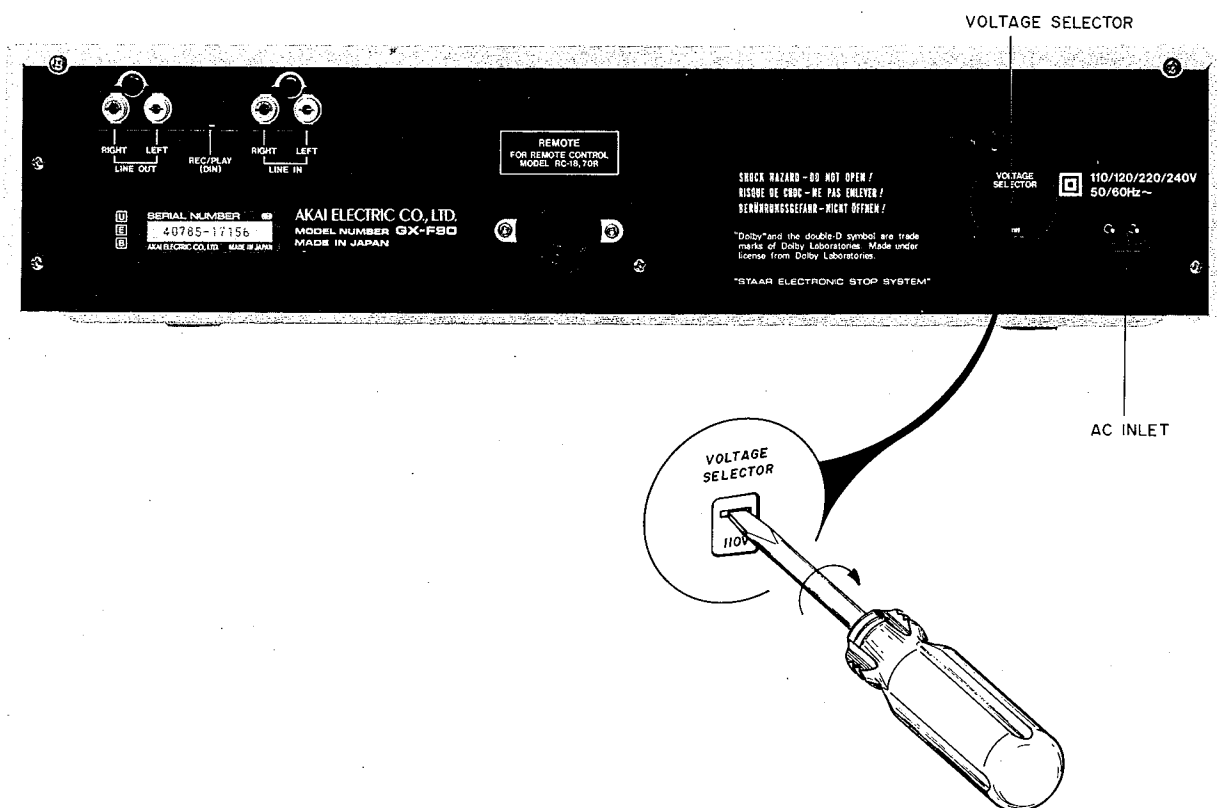

Fig. 4 Rear View (U/T, CEE, UK Models)
2) U/T, CEE, UK Model (Refer to Fig. 4)
Turn the Voltage Selector on the rear panel to the right with a minus screwdriver, as shown in Fig. 4, to obtain 110V, 120V, 220V successively. All you have to do is match the voltage you want with the voltage indicated. Fuse change is not necessary.